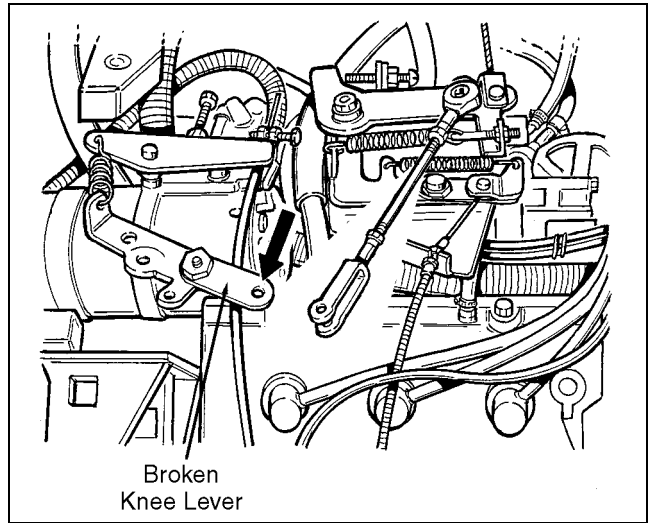

Figure 2C-8. Broken Knee Lever to Full at Rest Position
8. Pull the turnbuckle to the full throttle position (see Figure 2C-9). Install the turnbuckle pin, washer and cotter pin so that the turnbuckle pin is snug against the broken knee lever when pressure is applied to the lever.